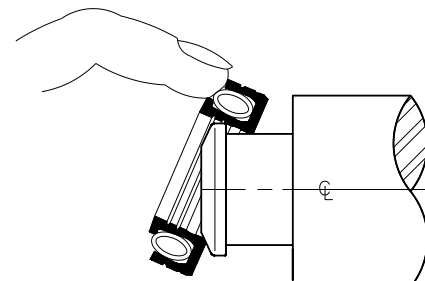

Figure 4
1. Insert one side of the Bal Seal into the top of the groove and push forward, as shown in Figure 4.